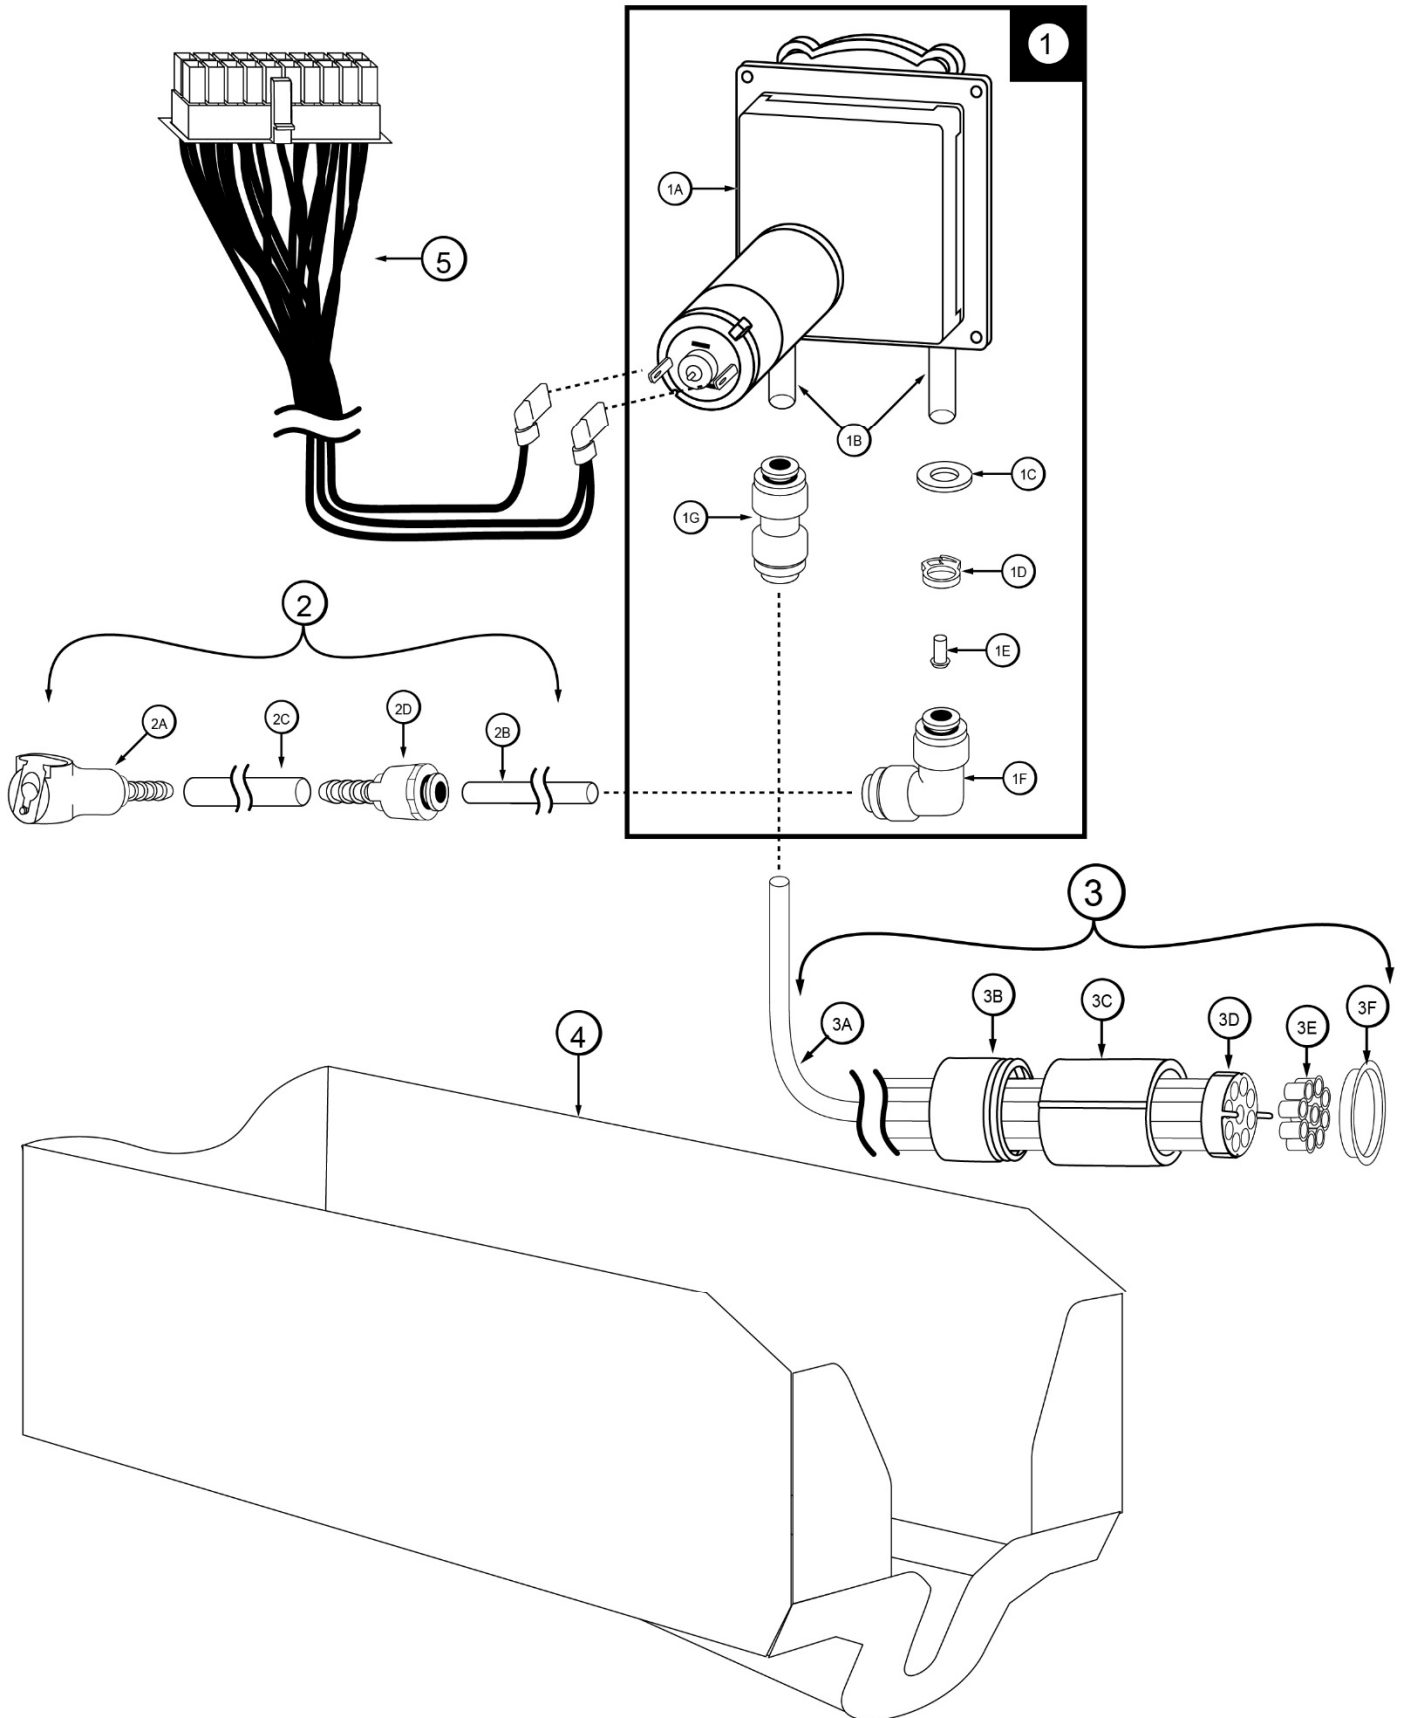

Figure 4
**Syrup Pump and Related Parts (See Figure 4)**